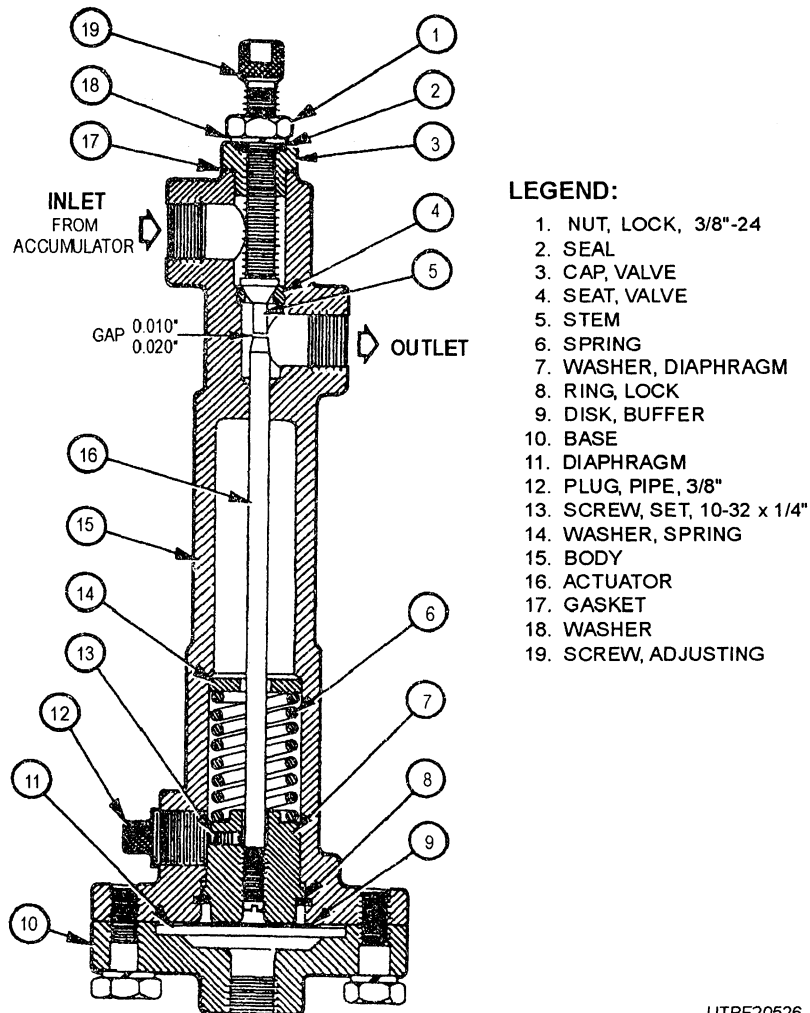

Figure 5-26.—Automatic blowdown valve.
- The automatic blowdown valve (fig. 5-26) is operated by oil pressure from the water pump. If the blowdown valve diaphragm gets ruptured, oil will likely appear in the waste discharge. Replace a ruptured valve diaphragm immediately to prevent the loss of oil from the pump crankcase.